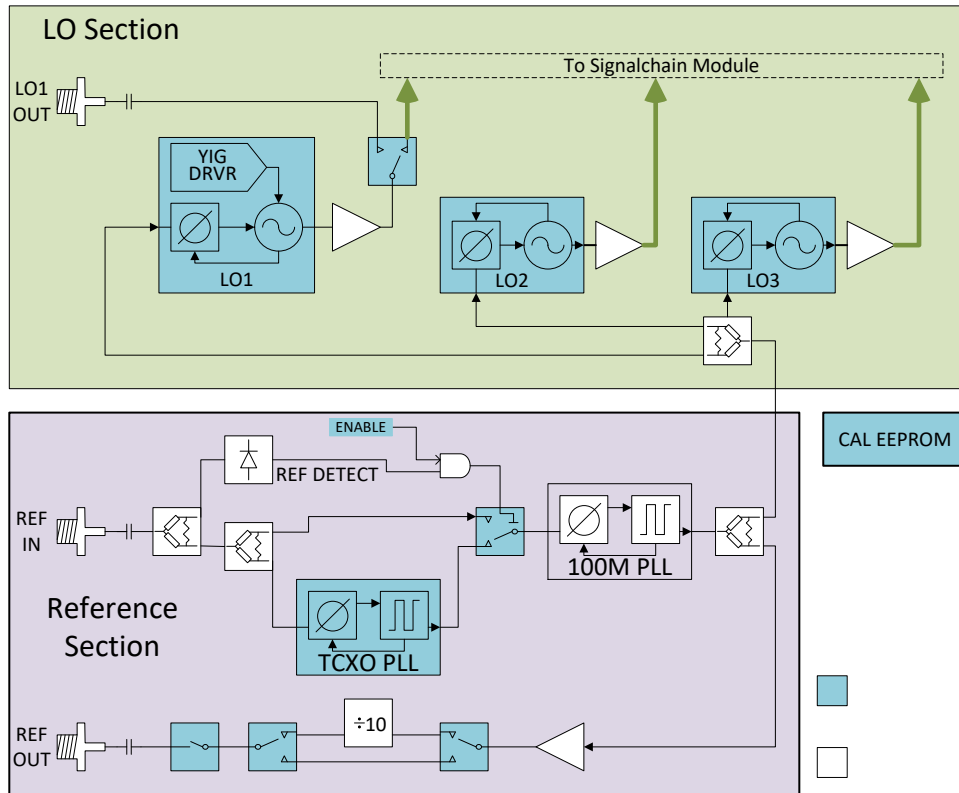

Figure 5. Block diagram of the local oscillator.
The local oscillator (LO) module contains three local oscillators, the reference clocks, and the calibration EEPROM as shown in *Figure 5*.